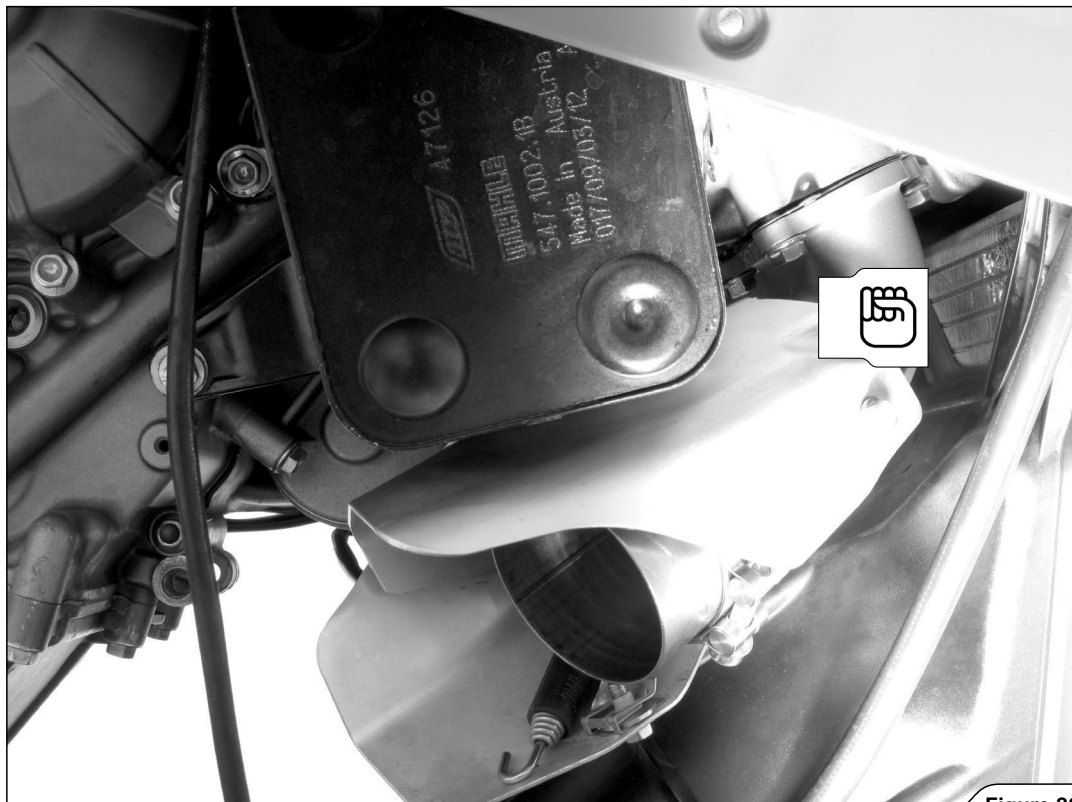

Figure 26
2. Hand tighten the front header onto the cylinder head, using stock nuts (Figure 26).